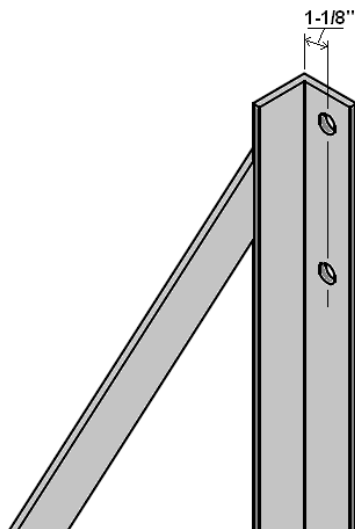

Figure 1 – Illustration of 1-1/8" measurement from outer edge of the flanged side to the hole center-lines on Left Bracket's vertical angle piece
- 2) With each unit of the Stepbox Bracket paired set available, measure from the outer edge of the flanged side to the hole center-lines on each Bracket's vertical angle piece, to ensure that the distance is 1-1/8" as shown using the Left Bracket as an example in Figure 1: